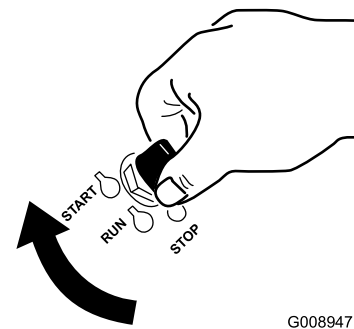

Figure 15
1. Turn the ignition key to the Start position (Figure 15). When the engine starts, release the key.
6. Turn the ignition key to the Start position (Figure 15). When the engine starts, release the key.